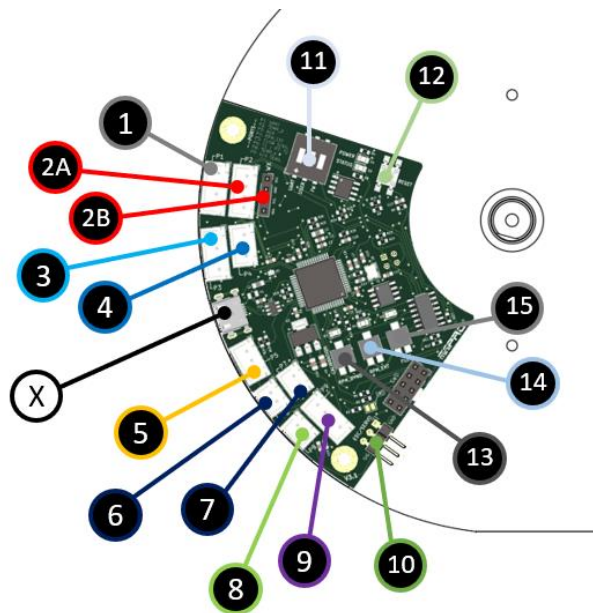

Figure 3: Dyno Controller Board V3.1 Ports Diagram
4. Select the installed sensors from the drop-down (i.e. for voltage and current sensor see *Figure 3*).